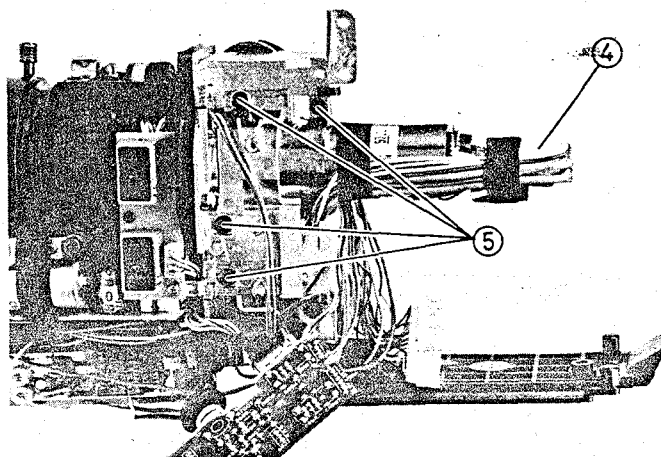
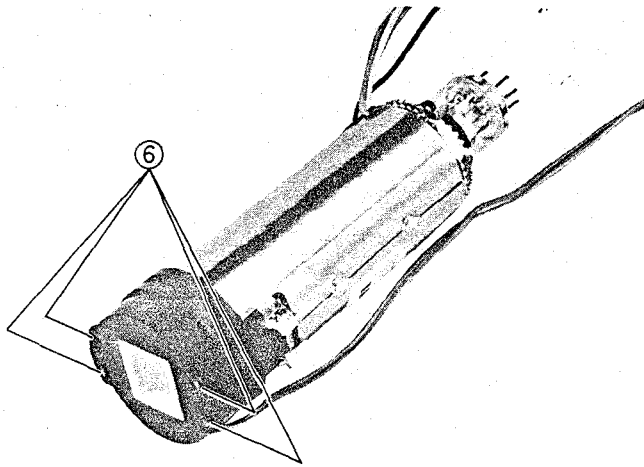

Fig. 2-121 Saticon Removal
Fig. 2-122 Saticon Removal
4. Disconnect saticon socket. (See Fig. 2-121)
5. Remove four (4) screws holding the saticon cover.
6. Release four (4) tabs and remove the bias light. (See Fig. 2-122)